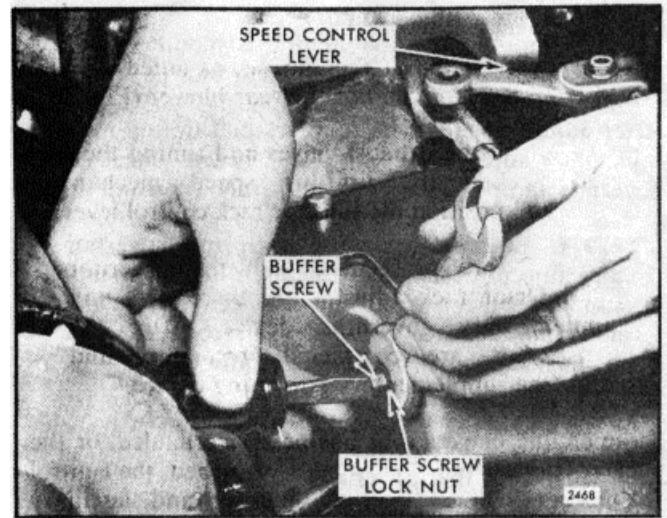

Fig. 8. Adjusting Buffer Screw
2. Back out the buffer screw until it extends approximately 5/8" from the locknut (Fig. 8).
1. With the engine running at normal operating temperature, turn the buffer screw IN so it contacts the differential lever as lightly as possible and still eliminates engine roll (Fig. 8).